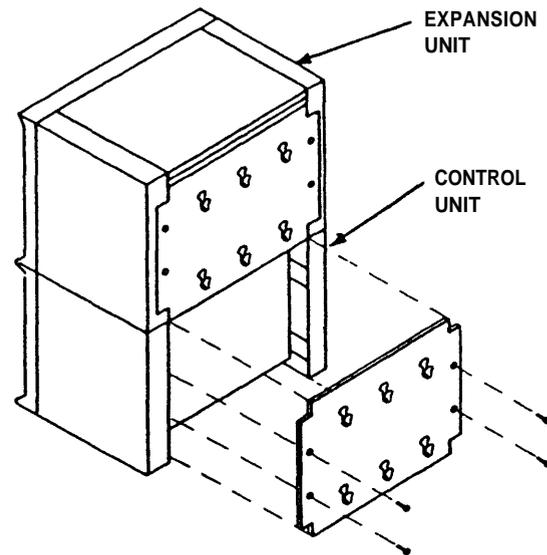

Figure 2
4. Place the Model 1030 expansion unit on top of your Model 1030 control unit align front, back, and sides (See Figure 2.)